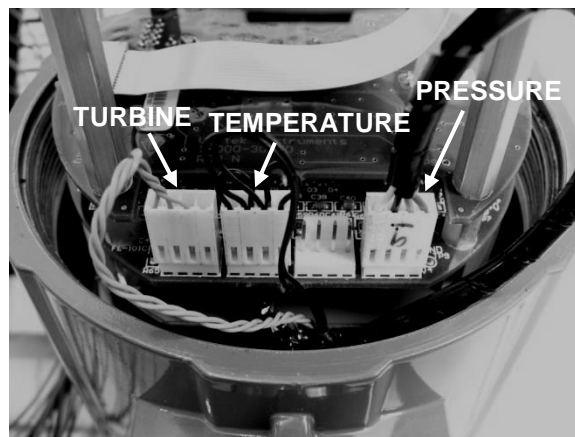

Figure 5-1. Electronics Stack Sensor Connections
3. Using ESD precautions and hazardous area precautions, remove the electronics enclosure window cover. Disconnect the turbine sensor from the electronics stack or remote feed through board. Refer to Figure 5-1 or 5-2. Measure the resistance between the outside pins – the resistance should be around 100 ohms. Measure the resistance from the center pin to the meter ground – the resistance should be less than 1 ohm.
3. Using ESD precautions and hazardous area precautions, remove the electronics enclosure window cover. Disconnect the temperature sensor from the electronics stack or the remote feed through board. Refer to Figure 5-1, 5-2 and 5-4. Measure the resistance across the outside pins of the temperature sensor connector. It should read approximately 1080 ohms at room temperature (higher resistance at higher temperatures). Measure the resistance across the inside pins, they should read the same.
3. Locate the sensor harnesses which come up from the neck of the flow meter and attaches to the circuit boards. Make note of the location of each sensor connection. Refer to figures 5-1 and 5-2. The turbine sensor connection is on the left, the temperature sensor connection (if present) is second from the left, and the pressure sensor connection (if present) is the right most connector. Use small pliers to pull the sensor wiring connectors off of the circuit boards.